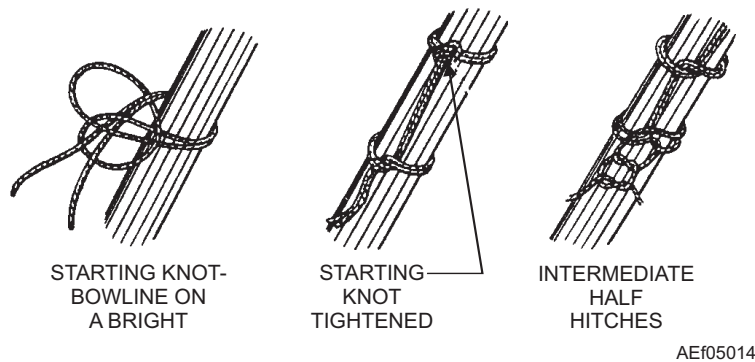

Figure 5-14.—Double-cord lacing.
1. Start the lacing at the thick end of the wire group or bundle with a bowline on a bight. See figure 5-14.